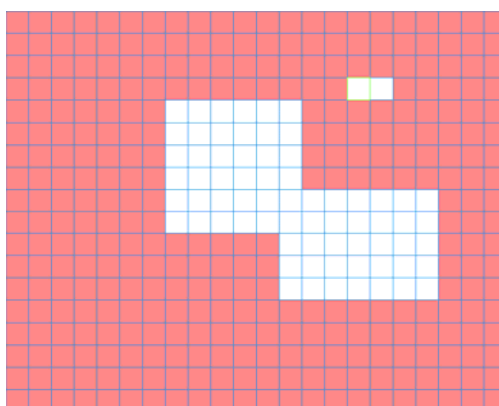

Figure 5-62
- Region: Click select button, the interface is shown as in Figure 5-62. Here you can set motion detection zone. There are 396(PAL)/330(NTSC) small zones. The green zone is current cursor position. Grey zone is the motion detection zone. Black zone is the disarmed zone. You can click Fn button to switch between the arm mode and disarm mode. In arm mode, you can click the direction buttons to move the green rectangle to set the motion detection zone. After you completed the setup, please click ENTER button to exit current setup. Do remember click save button to save current setup. If you click ESC button to exit the region setup interface system will not save your zone setup.
In Figure 5-62, you can left click mouse and then drag it to set a region for motion detection. Click Fn to switch between arm/withdraw motion detection. After setting, click enter button to exit.